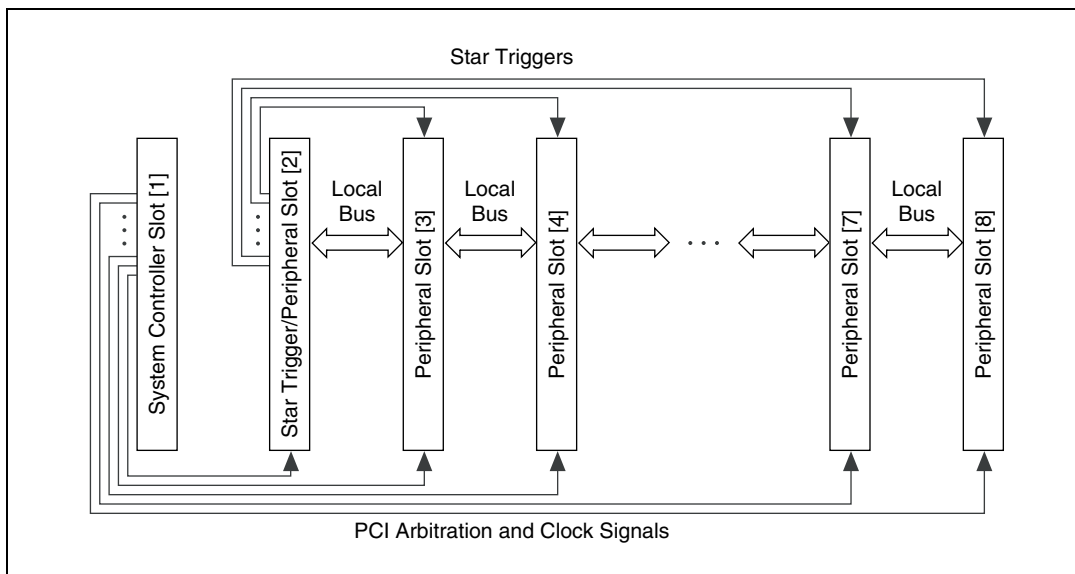

Figure 1-4. PXI Local Bus and Star Trigger Routing
The Star Trigger (ST) slot is Slot 2. This slot has dedicated equal-length trigger lines between Slot 2 and each remaining peripheral slot (refer to Figure 1-4). This slot is intended for modules with ST functionality that can provide individual triggers to all other peripheral modules. However, if you do not require advanced trigger functionality, you can install any standard peripheral module in this slot.
The PXI backplane local bus is a daisy-chained bus that connects each peripheral slot with adjacent peripheral slots to the left and right, as shown in Figure 1-4.